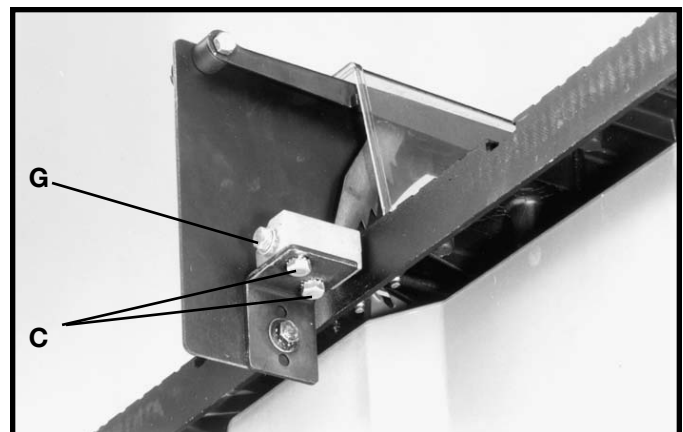

Fig. 17
11. When you are certain the splitter is properly aligned with the saw blade, tighten the two screws (C) Fig. 17, that fasten the splitter support bracket to the splitter bracket and tighten screw (G) that fastens the splitter bracket to the pivot rod.